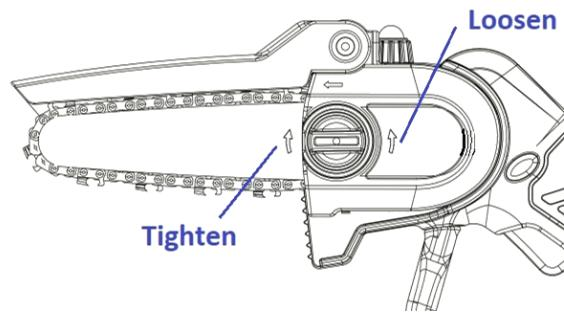

Fig. 5
4.7- Saw chain tension adjustment (Fig. 5)
- WARNING!** Remove battery pack (7) from the chainsaw before servicing.